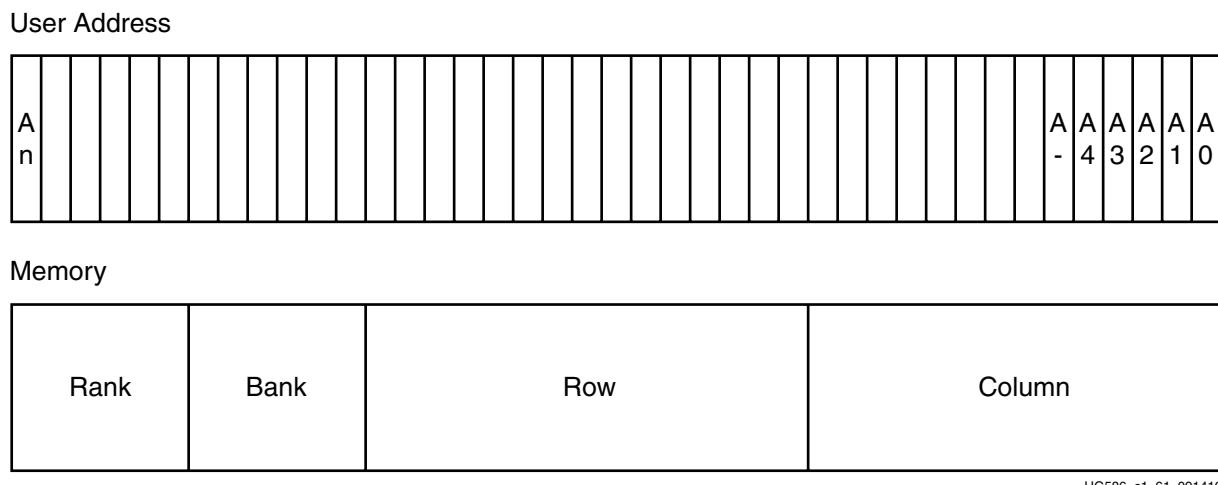
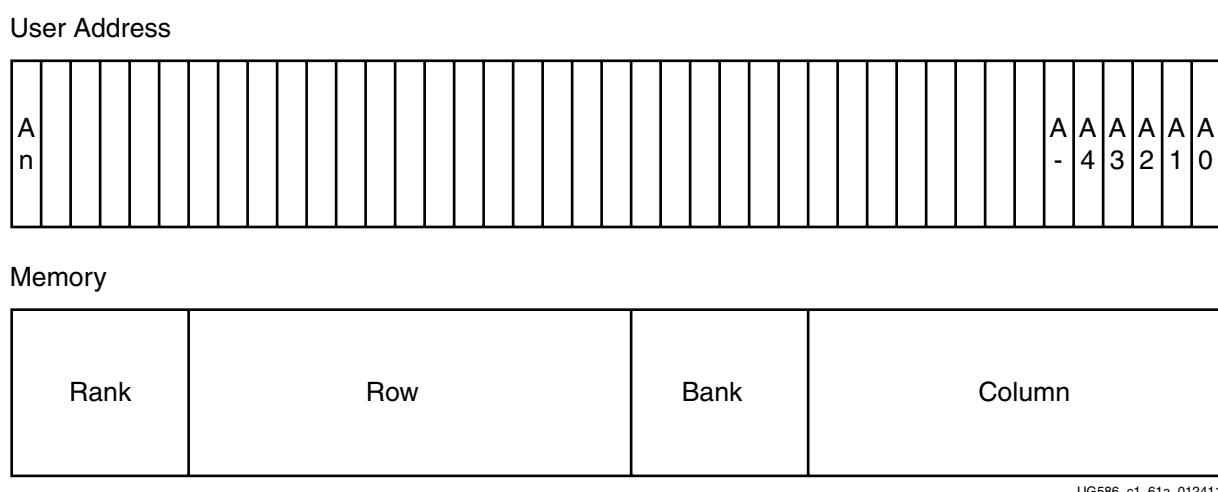

Figure 4-56: Memory Address Mapping for Bank-Row-Column Mode in UI Module
Figure 4-57: Memory Address Mapping for Row-Bank-Column Mode in UI Module
The mapping between the User Interface address bus and the physical memory row, bank and column can be configured. Depending on how the application data is organized, addressing scheme Bank- Row-Column or Row-Bank-Column can be chosen to optimize controller efficiency. These addressing schemes are shown in Figure 4-56 and Figure 4-57.
Figure 4-56 and Figure 4-57 show that the address map is controlled by the string parameter MEM_ADDR_ORDER. This parameter can take the following values:
- **BANK_ROW_COLUMN** – Address map is as shown in Figure 4-56.
- **ROW_BANK_COLUMN** – Address map is as shown in Figure 4-57.